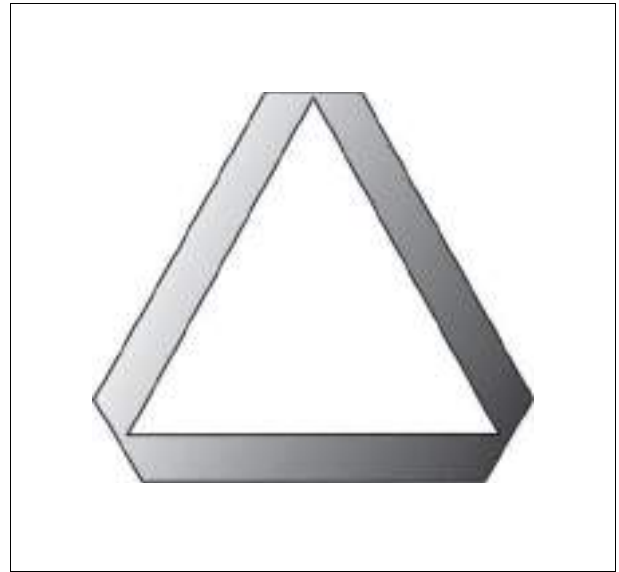

Fig. 5.
- Ensure that the tractor and implements are fitted with SMV warning triangles and other markings recommended to improve visibility when driving on roads (unless the regulations state otherwise) *fig. 5*.